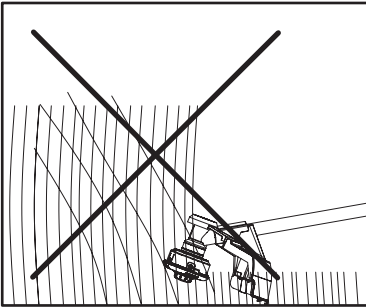

**Fig. 33**
1. Attach the trimmer head (1) to cut smaller types of weed, lawn grass or similar soft vegetation. Make sure that the guard (2) has been attached properly.
4. Hold the trimmer head (1) just above the ground at an angle of approximately 30° (Fig. 33).